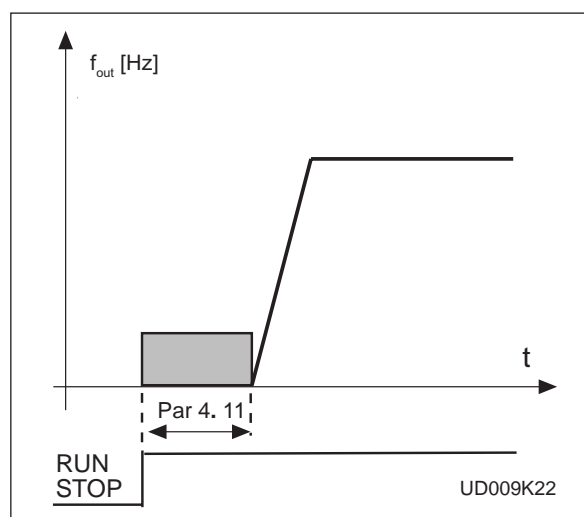

Figure 5.5-20 DC-braking at start.
- >0** DC-brake is active when the start command is given. This parameter defines the time before the brake is released. After the brake is released the output frequency increases according to the set start function parameter 4. 6 and the acceleration parameters (1. 3, 4. 1 or 4. 2, 4. 3). See figure 5.5-20.